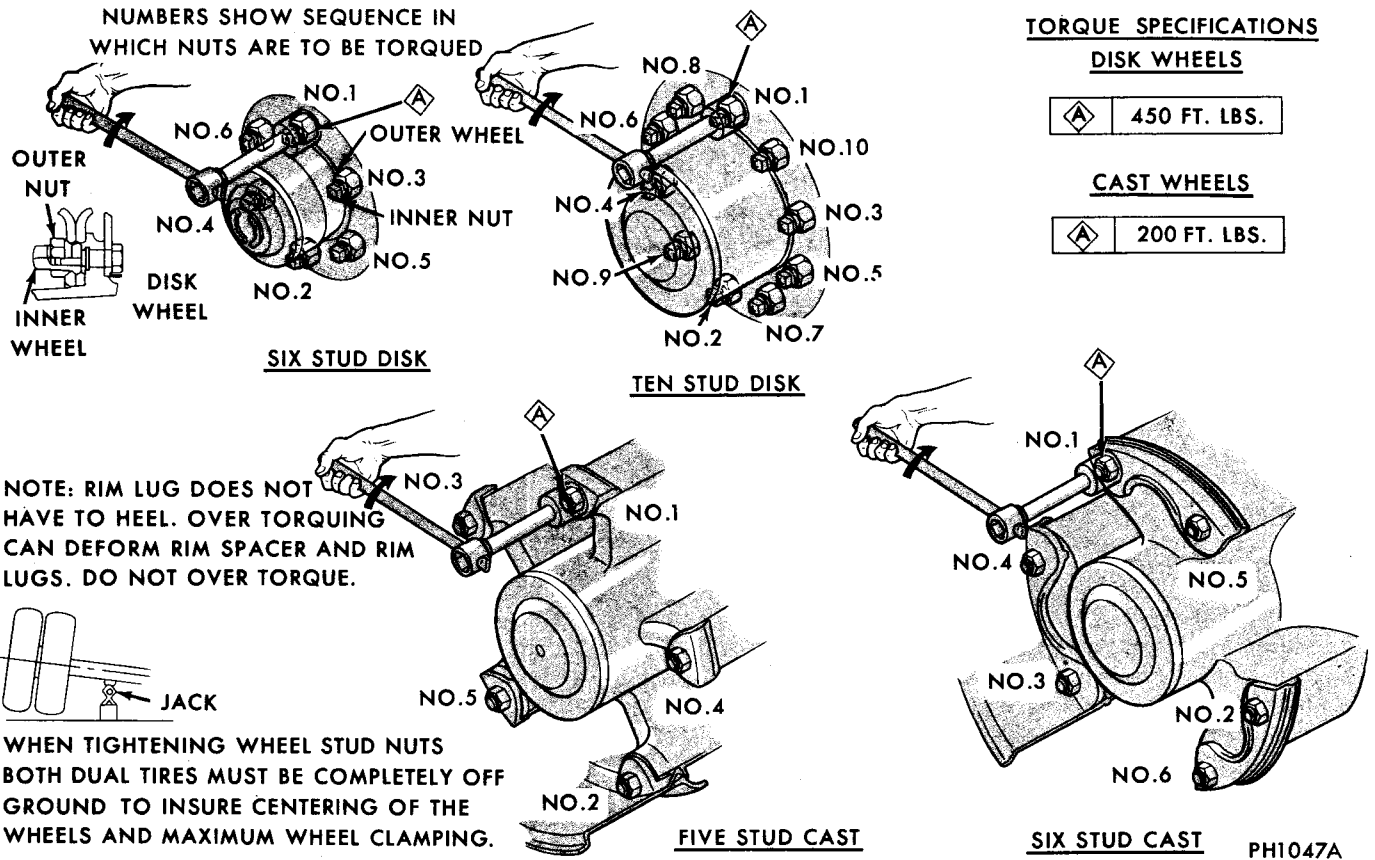

Fig. 6—Wheel Tightening—D500, D600, S600, S700, D800
(1) Tighten the small inner nuts first. This tightens the inner wheel only.
(2) Tighten the large outer nuts last. This tightens the outer wheel (Fig. 6).